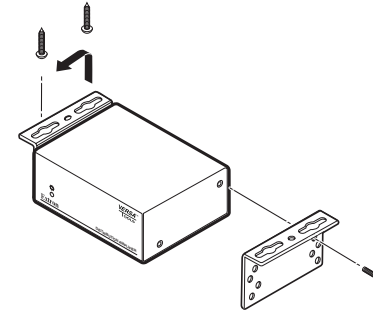

Figure 7 — Under-desk mounting the MDA
1. Attach the mounting brackets to the MDA with the provided machine screws (figure 7).